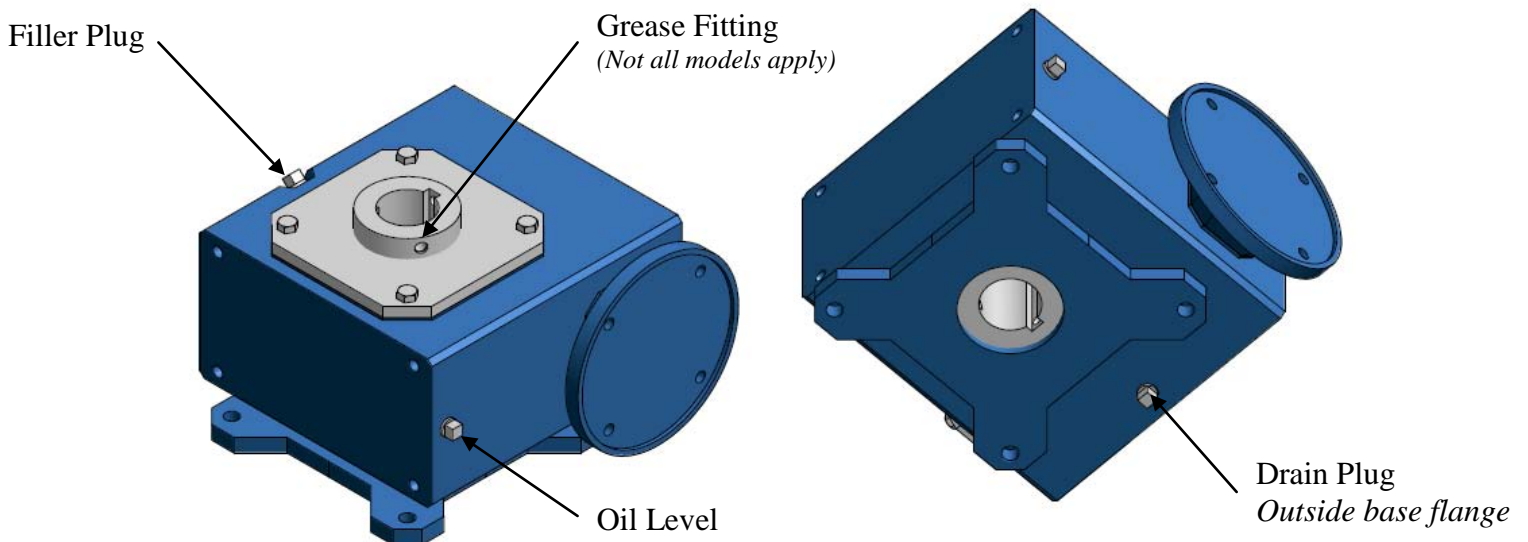

Figure 1
2. Refer to Figure 1 below. This shows recommended fill level for lubricant. Remove plug and check oil level.